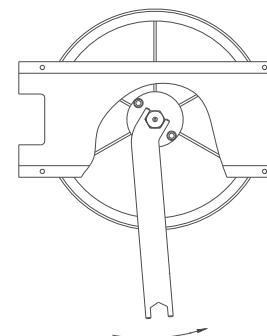

Fig 1
7.5.2 Insert the spanner in the gap beneath the plastic cover; use the spanner to lock on the adjusting nut (Fig 1). Turn the nut counter clockwise as the figure below (Fig 2). This will tighten the sealing plate.